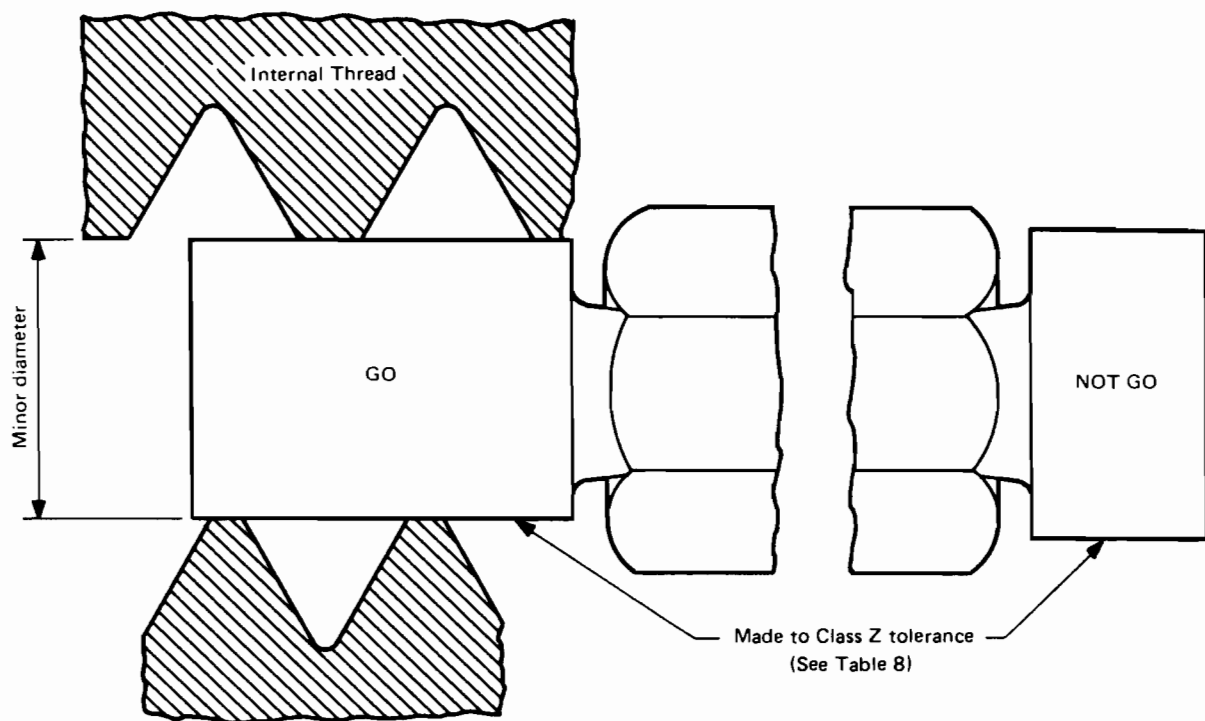

FIG. 9 MINOR DIAMETER LIMIT — CYLINDRICAL PLUG GAGES
4.8.2 GO and NOT GO Plain Cylindrical Plug Gages (Table 2 — Gage 3.1). Plug gages shall be made to Z tolerances and as shown in Fig. 9. GO shall be made to plus tolerance; NOT GO shall be made to minus tolerance. GO cylindrical plug gage must enter and pass through the length of the product without force. NOT GO cylindrical plug must not enter. See Table 8 for gage tolerances.